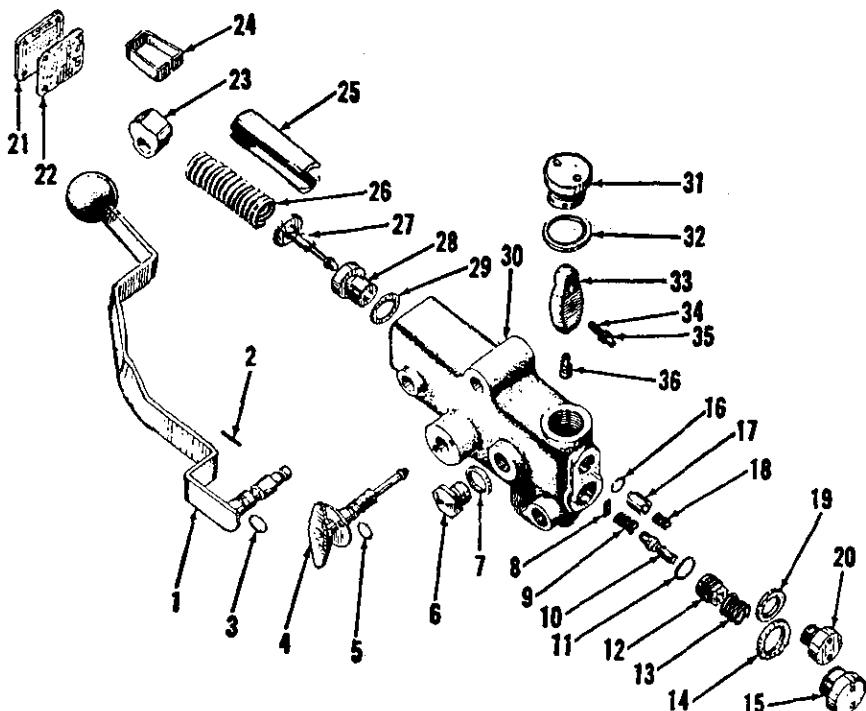
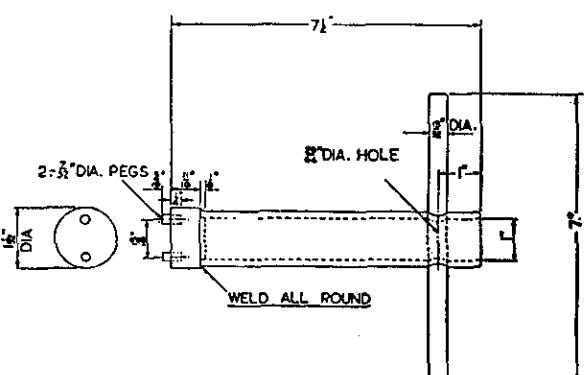
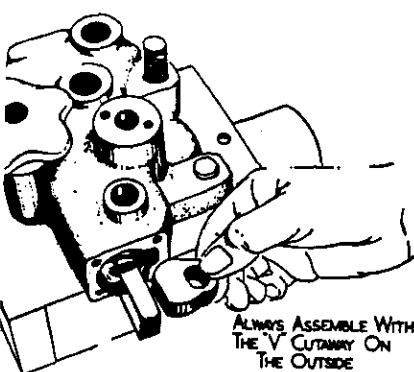

Fig. 138—Exploded view of the B-275 series hydraulic control valve. A remote coupling attachment may be installed instead of plug (6).
Fig. 139—View showing dimensions of special tool used to remove relief valve seat of the control valve shown in Fig. 138.
Fig. 140—When installing cam in cam stirrup, position "V" cutout as shown.
Disassemble the removed control valve as follows: Refer to Fig. 138, remove cap screws from isolating valve (4) stop plate and unscrew isolating valve. Remove plug (6) or remote control line coupling, if so equipped. Remove plug (20), washer (19), spring (18) and dashpot piston (17). Remove plugs (15 and 31) and their washers. Loosen jam nut (35) on intercouple lever adjusting screw (34) and remove adjusting screw from intercouple lever. Place control lever in lift position so that intercouple lever is clear of non-return valve (10). Place a screwdriver through non-return valve hole, lift intercouple lever and at the same time place control lever in lower position. This will withdraw relief valve (27) from intercouple lever and allow intercouple lever to be removed. Remove the intercouple lever spring (13) then
Use a tool similar to that shown in Fig. 139 and remove relief valve seat (28—Fig. 138) and washer (29).
Approximate free lengths of the remaining springs shown in Fig. 138 are as follows: Intercouple lever spring (13), 7/8-inch; non-return valve spring (9), 11/16-inch; dashpot spring (18), 13/16-inch.
203. Reassemble by reversing the disassembly procedure, however, keep the following points in mind: If new valves and/or seats are being installed the mating faces should be lightly lapped to insure against leakage. Renew seat washers (11 and 29—Fig. 138) and all "O" rings. Cam (23) is installed with "V" cut-out toward outside of housing as shown in Fig. 140.
With unit assembled and prior to installing plug (15—Fig. 138), adjust intercouple lever adjusting screw (34) as follows: Place control lever in neutral position, turn adjusting screw in until it just touches the non-return valve, then back-off screw 1/3-turn and tighten jam nut (35). Install plug (15).